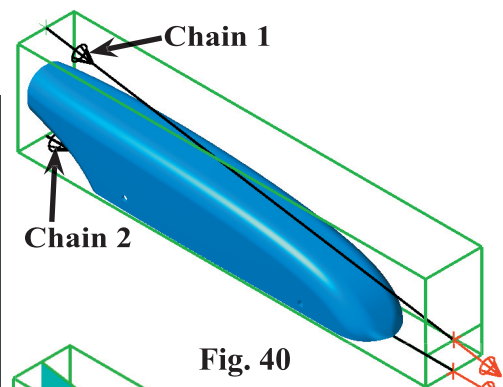

Fig. 40
Step 6. Click Chain 1 and Chain 2, **the two lines that were just drawn**, Fig. 40. If the chaining directions arrows are not pointing in the same direction - click Reverse .